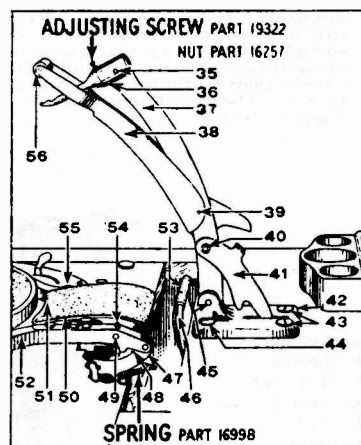

Fig. 2
2. If the record lift ring (No. 52, Fig. 2) fails to pick up record:
- b. The magazine spindle (No. 36, Fig. 2) should either be lowered or raised slightly as the case may warrant, by adjusting screw (Part No. 19322).
4. Should binding of the record lift pad (No. 50, Fig. 2) occur:
- a. Remove the shaft (No. 49, Fig. 2.) If bent, it should be replaced with a new shaft.
The small spring (Part No. 16998) shown in Fig. 2 may be broken or disconnected.